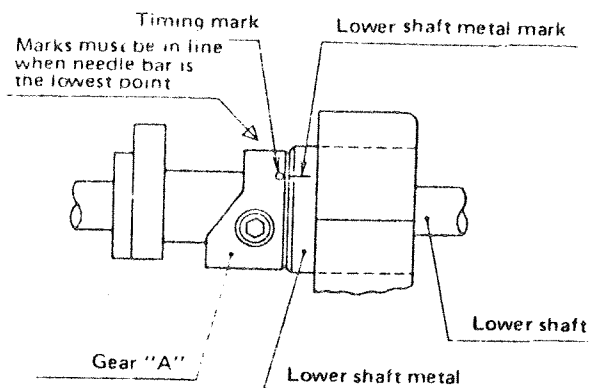

Fig. 16
- (1) Best timing condition (Fig. 16)